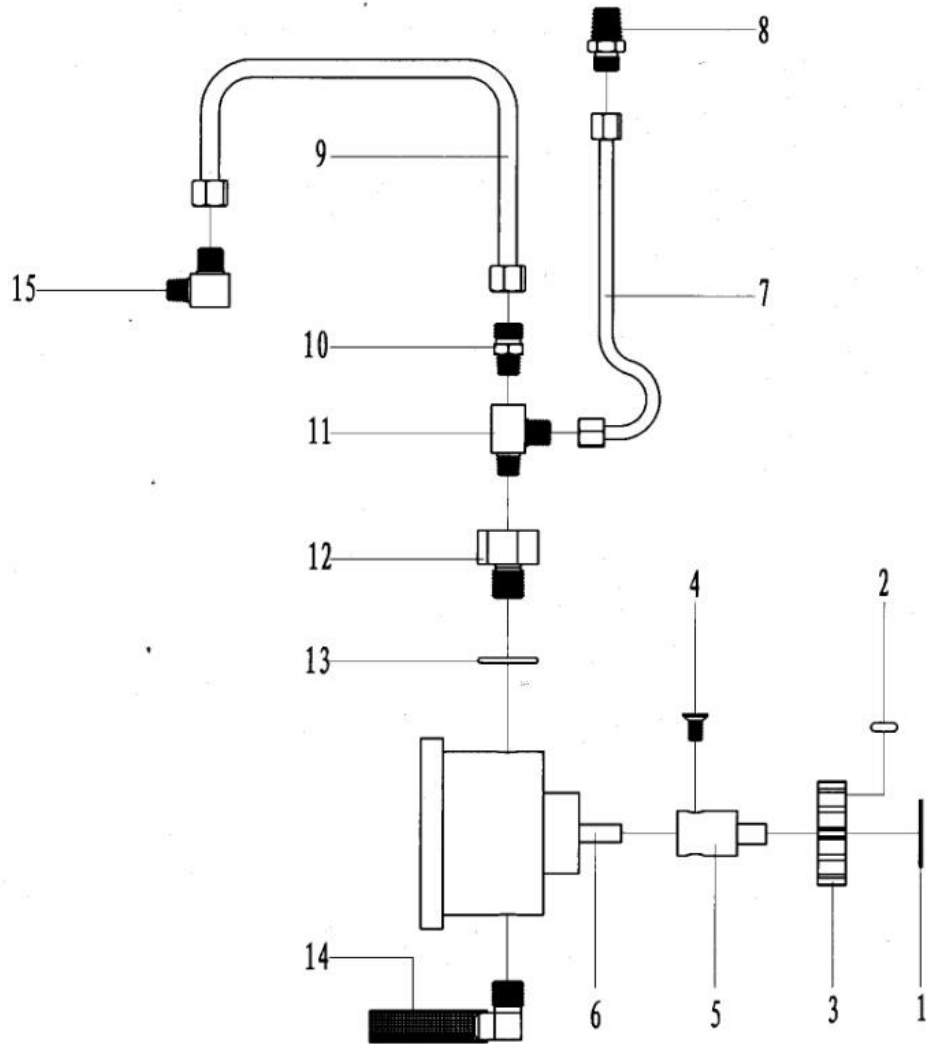

Fig. 22
10.9 Assembly Oil Pump (Fig. 22, Table 9)